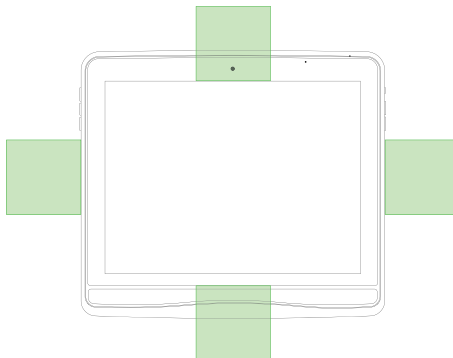

Figure 5.8 System Off-Screen Area
2. Look at the area where the System Off-Screen menu has been configured for your I-Series, see *Figure 5.8 System Off-Screen Area, page 29*